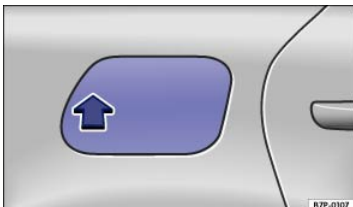

Fig. 176 In the right rear fender: Opening fuel filler flap.
- Push on the fuel tank flap in the right rear fender ⇒ Fig. 176 (arrow) and fold open.